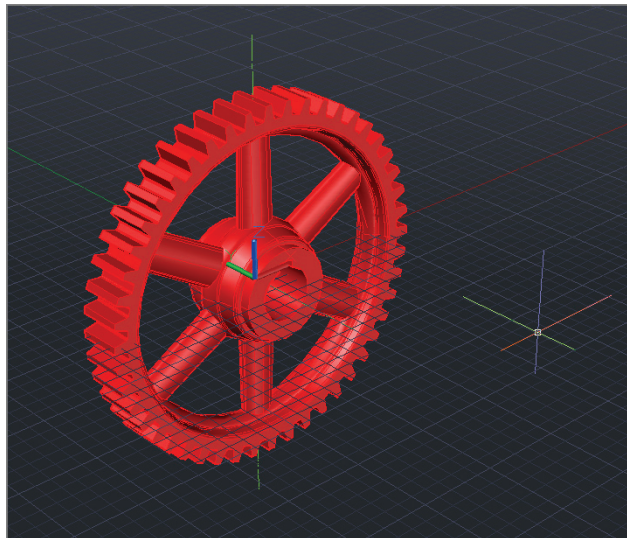

FIGURE 18.20 Gear 3D model
1. Open Ch18-F.dwg. This is a 3D solid model of a gear (see Figure 18.20).